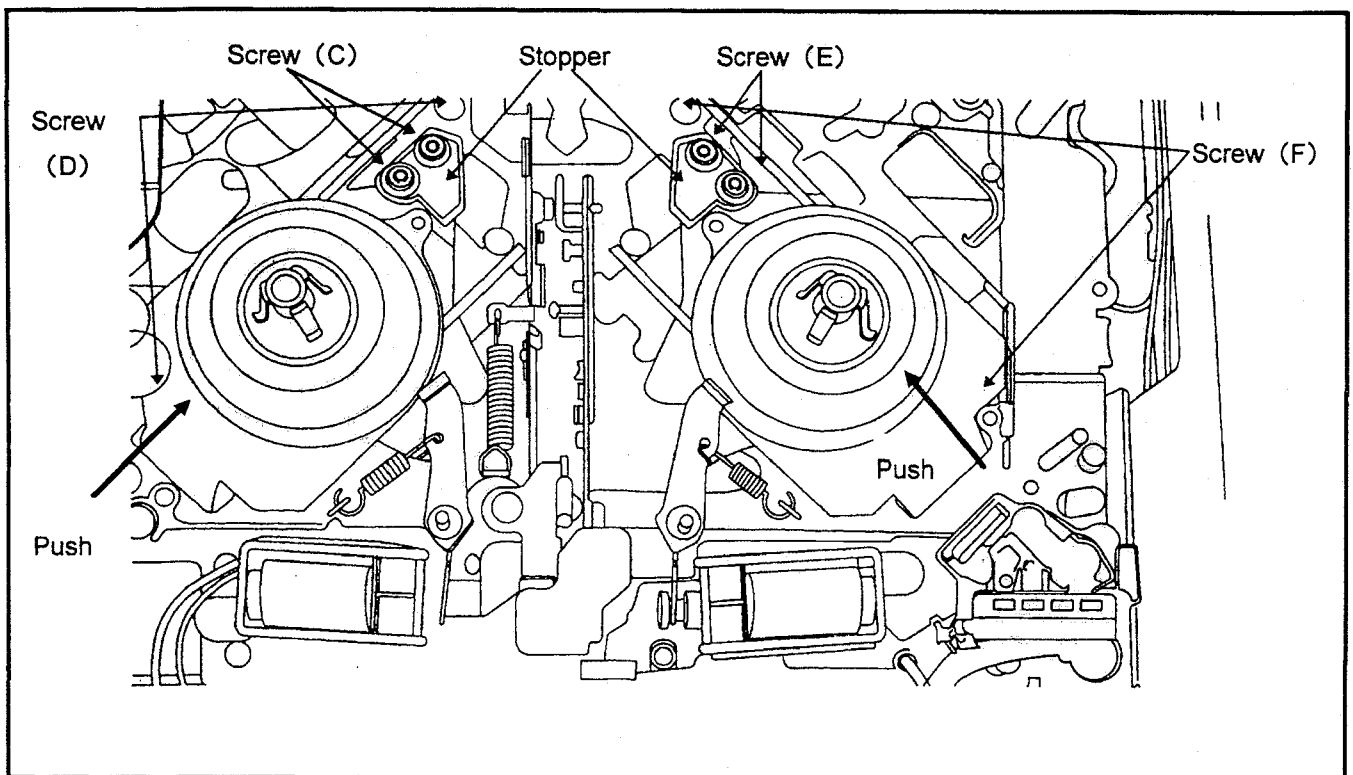

Fig. M8
3. Turn the Emergency Gear until S1 Post moved center loading position and remove the S5 Post (Refer to item 14).
5. Unscrew the 2 screws (C) to remove the Supply Reel Stopper as shown in Figure M8.
6. Push the Reel Table to middle position and unscrew the 2 screws (D) to remove the Supply Reel Rotor Unit as shown in Figure M8.
3. Unscrews the 2 screws (E) and then remove the Take Up Reel Stopper.
4. Push the Reel Table to middle position and unscrew the 2 screws (F) to remove the Take Up Reel Rotor Unit as shown in Figure M8.